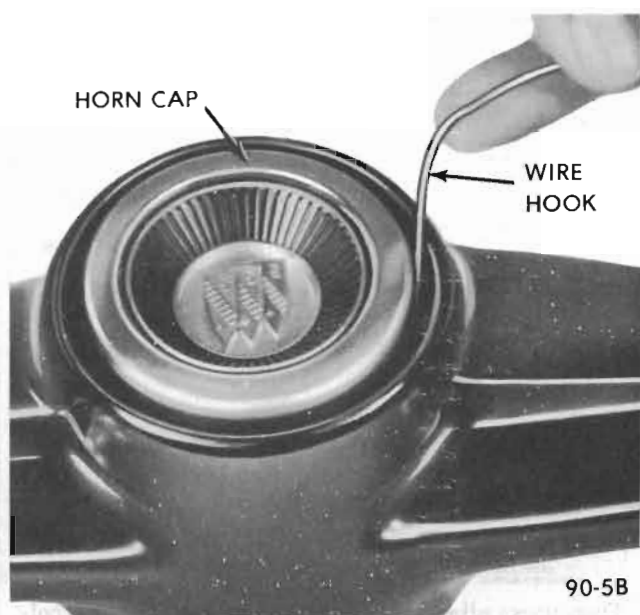

Figure 90-76 Horn Actuator Cap Removal - Standard Steering Wheel
2. On 43-44000 series cars with standard steering wheel, pull off cap, remove three phillips head screws and take off bushing spacer, receiver cup and Belleville spring (see Figure 90-76).